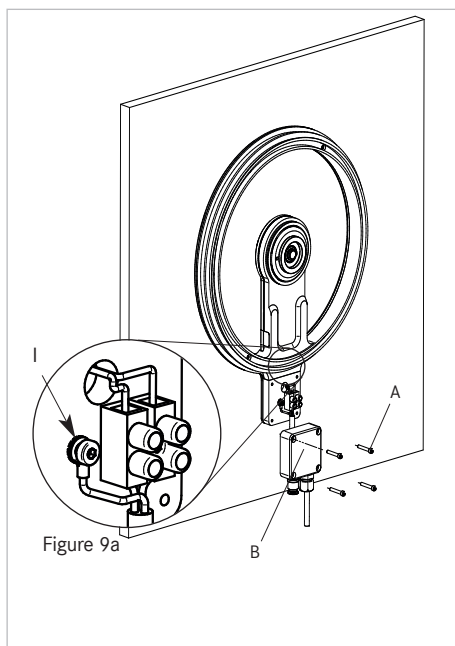

Figure 9: Mounting the cable cover
Secure the lid with the included screws (A) M3x20 (Fig. 9).